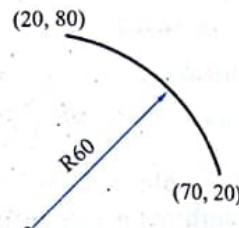

FIG 14.13
**Example :** Draw an Arc passing through coordinate (70, 20); (20, 80) and radius equals to 60. Refer figure 14.13.